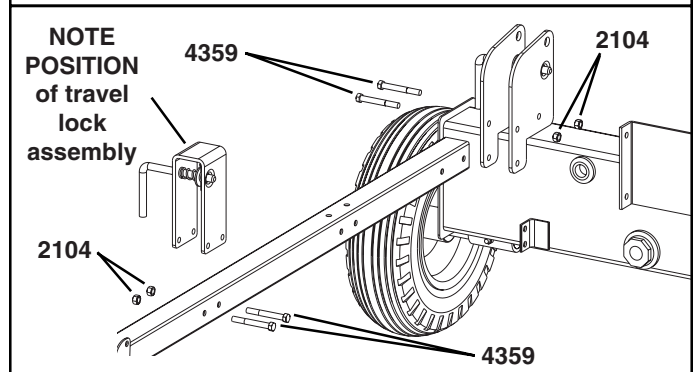

Figure 2b
6. Next, attach the tongue to the reservoir using two 3/8-16 x 3" bolts (4359) and two 3/8-16 bi-way locknuts (2104). Attach travel lock assembly to the tongue using two 3/8-16 x 3" bolts (4359) and two 3/8-16 bi-way locknuts (2104). Position of pin should be toward operator's side. See Figure 2b.